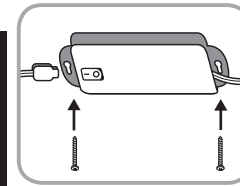

FIGURE 8
3. Pre-drill holes in the mounting surface with a 1/16in. (1.5mm) drill bit for soft woods and a 3/32in. (2.4mm) drill bit for hardwoods. Drive the 5/8in. wood screws provided in the mounting hardware into the mounting surface until approximately 1/16in. (1.5mm) of space remains under the head of the screw (see Figure 8).
6. Plug the 3-pin connector of the power supply cord into the corresponding connection point on the LED Driver (see Figure 8).